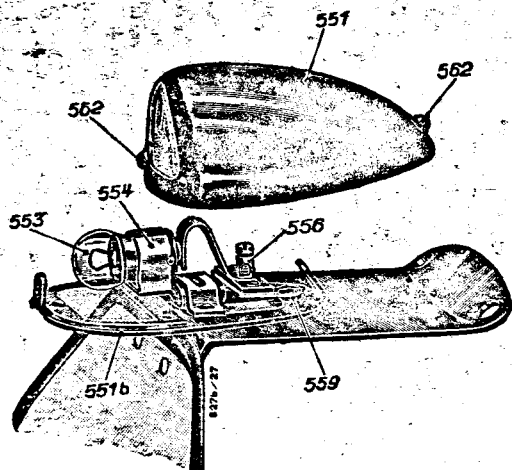

Fig. 11. Number-plate lamp JN 7 K 1, opened
b) Number plate lamp JN 7 K 1 (Fig. 11)
Fixing the cable and replacing the bulb is done in the same manner as on number plate lamp JN 7 K 1 (Fig. 11).